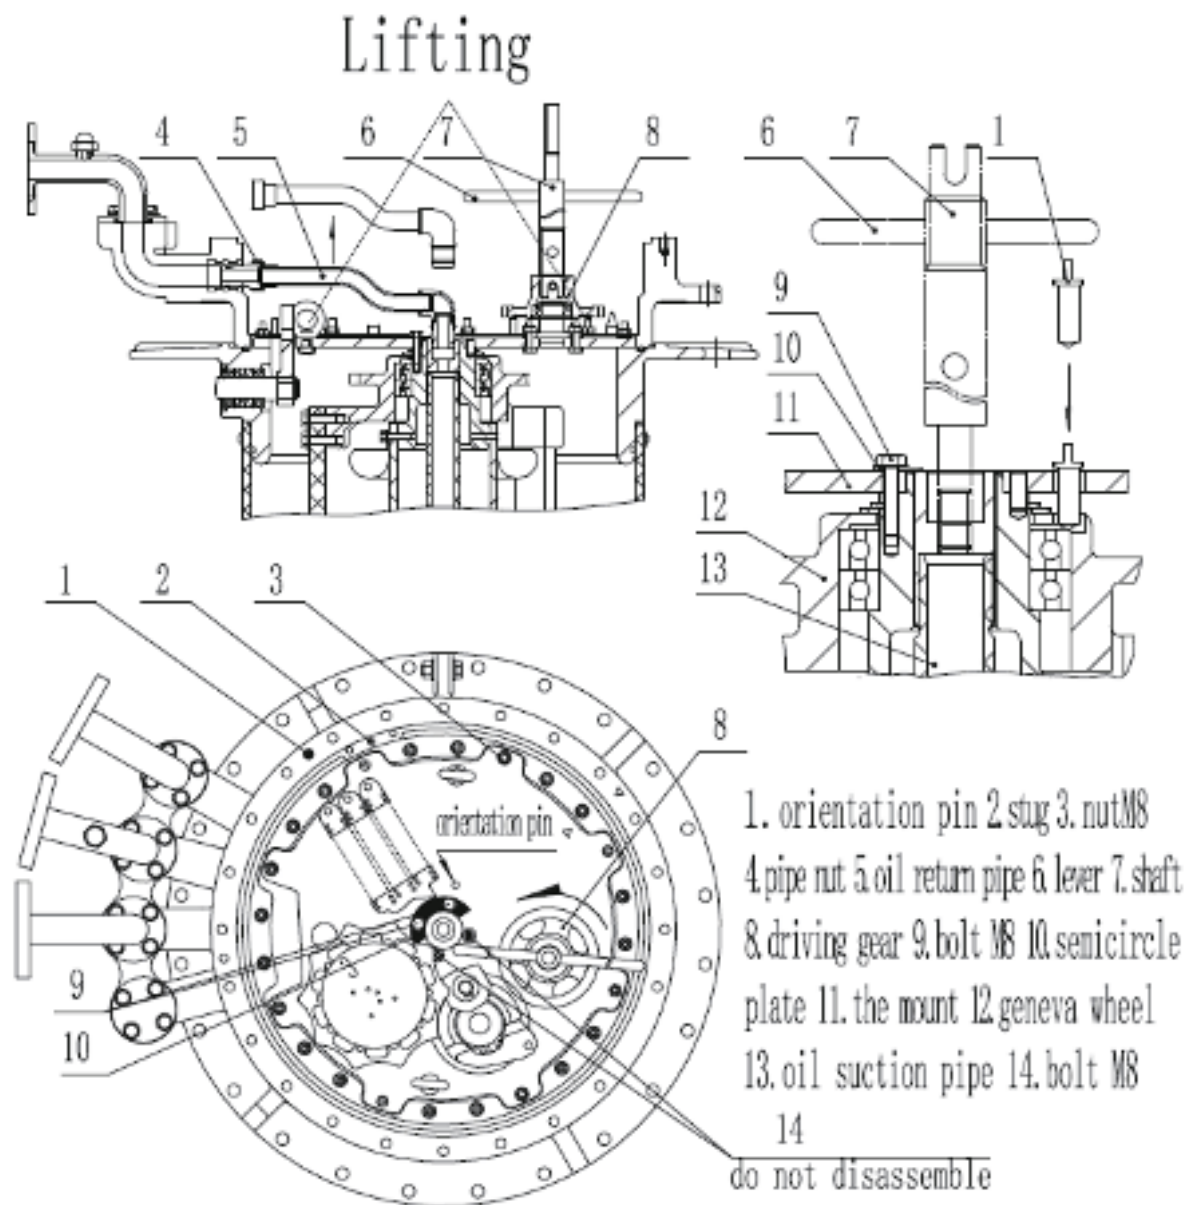

Figure 7.10.1
h) Slowly lift the tap changer core vertically (Figure 7.10.1) and place it in a flat and clean place.